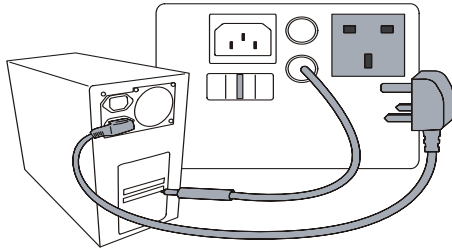

Figure 7. Touch Current Connections
-  Connect the appliance and the test probe as indicated on the tester, see also Figure 7.